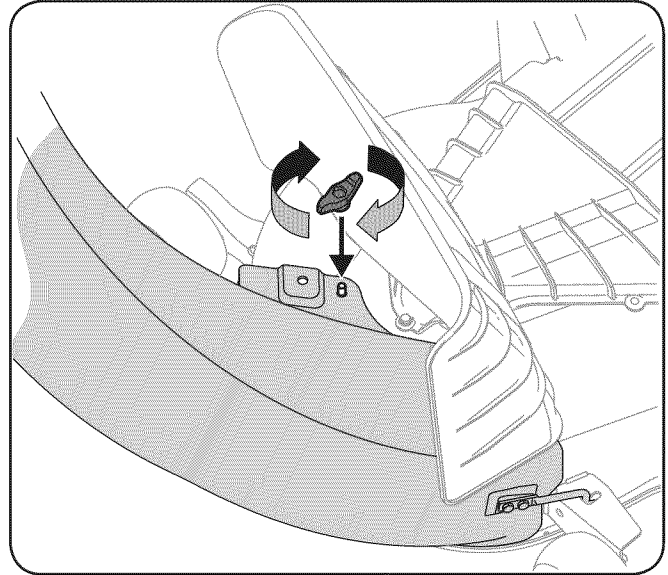

Figure 20
6. Secure the discharge chute elbow to the cutting deck using a (720-04122) wing knob included in hardware pack 689-00341. Refer to Figure 20.